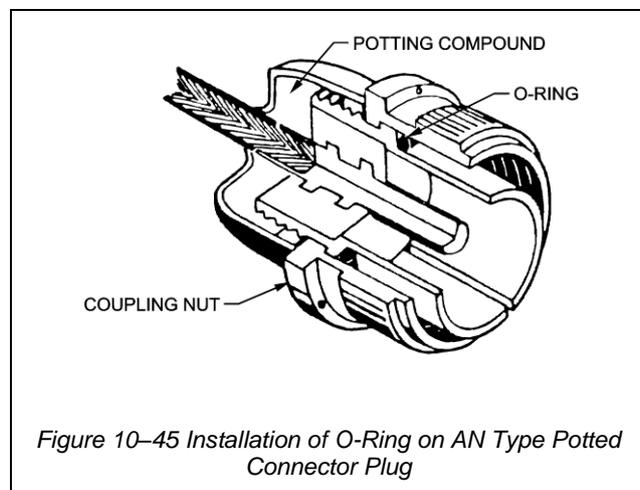

Figure 10-45 Installation of O-Ring on AN Type Potted Connector Plug
- c. Insulate the ends of all spare wires. (See Figure 10-45). The preferred method of insulating a spare wire is to crimp it into an MS25274 wire end cap (Table 10-11) with tool as detailed in Section 2, Chapter 6. The procedure for crimping wire end caps with standard tool is as follows:
- (1) Select an end cap of the correct size for the wire to be insulated
- (2) Make sure the locator is properly positioned behind the lower nest. Position the wire end cap in the correct die nest with the closed end of the cap resting against the locator.
- (3) Insert the stripped wire so that the end of the stripped wire is seated against the closed end of the cap, and the insulation is against the metal sleeve of the cap.
- (4) Close tool handles until ratchet releases and the tool opens. Remove the crimped assembly.